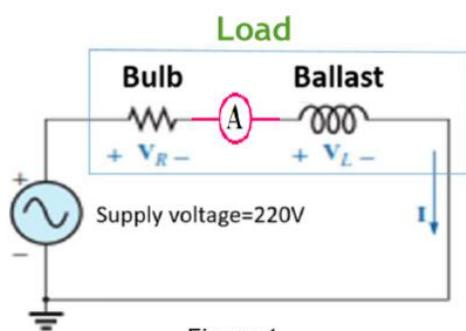

Figure 1
1. Connect the circuit in Figure 1. Measure supply voltage, V and I .